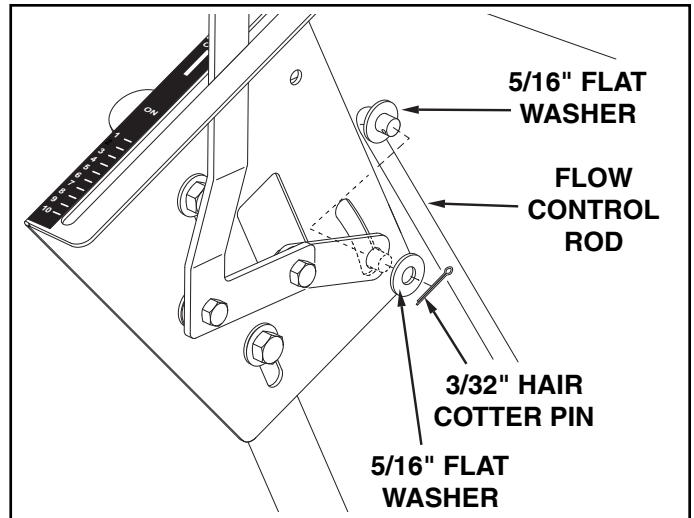

FIGURE 11
- Place a 5/16" flat washer onto the other end of the flow control rod. Insert the end of the rod through the curved slot in the flow control mounting bracket and through the hole in the flow control link. Secure with a 5/16" flat washer and a 3/32" x 3/4" cotter pin. See figure 11.